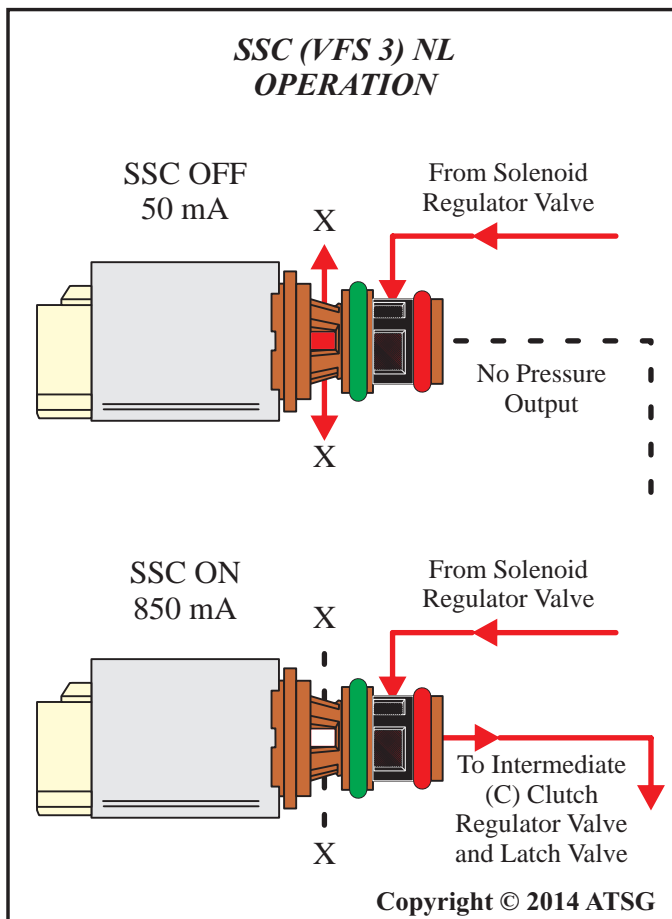

Figure 15
Shift Solenoid C, or Variable Force Solenoid 3 is a Normally Low (NL) or normally vented solenoid and uses proportional control. The Mechatronic Control Unit, or PCM will vary the control amperage through the solenoid circuit in order to control the output pressure through the solenoid. Refer to the solenoid apply chart in Figure 12. The chart shows SSC applied amperage of 50 mA when the solenoid is OFF and applied amperage of 850 mA when the solenoid is ON. Refer to the diagram in Figure 15. Hydraulic solenoid control pressure is supplied by the solenoid regulator valve in the main control assembly and is directed to the solenoid in the passage between the two o-rings. With control amperage of 50 mA, the control valve in the solenoid is open and pressure is exhausted through the back of the solenoid. With control amperage of 850 mA, the control valve in the solenoid is closed and pressure is not exhausted, instead control pressure is directed through the front of the solenoid and is used to control the apply and release of the intermediate (C) clutch through the intermediate (C) clutch regulator valve and intermediate (C) clutch latch valve.